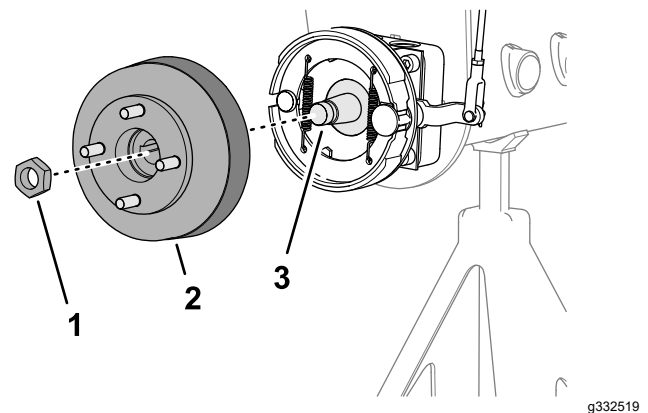
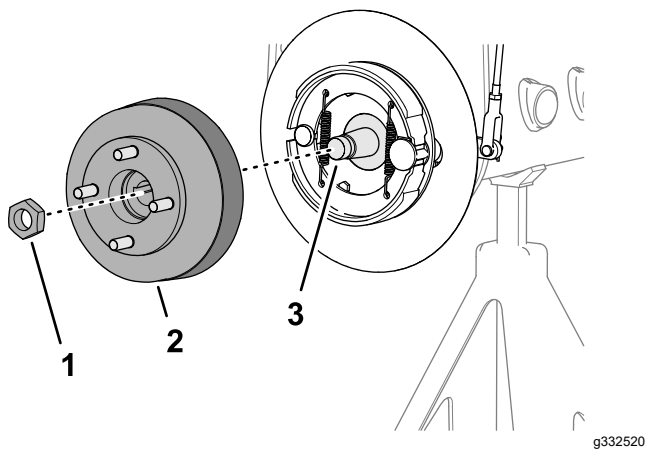

Figure 84
Figure 85
3. Assemble the wheel hub and brake drum onto the wheel-motor shaft (Figure 84 or Figure 85).
4. Secure the wheel hub to the shaft with the locknut (Figure 84 or Figure 85), and tighten by hand.